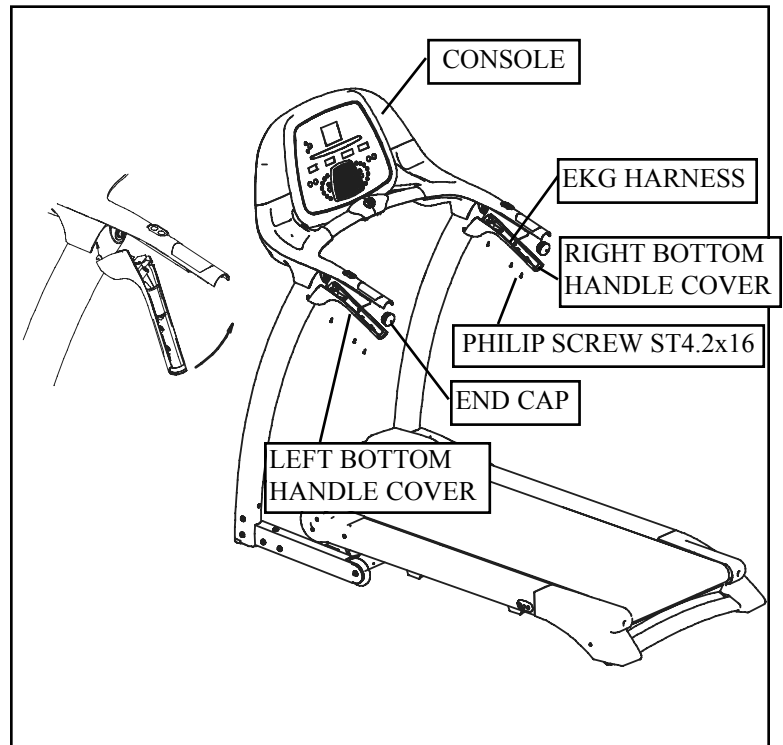

Figure 5: Left and Right Bottom Handle Cover Installation
7. Position the Left and Right Bottom Handle Covers to underside of handle assembly, then connect the EKG Harness Wires to the Left and Right Bottom Handle Pulse Plates as shown in Figure 5.